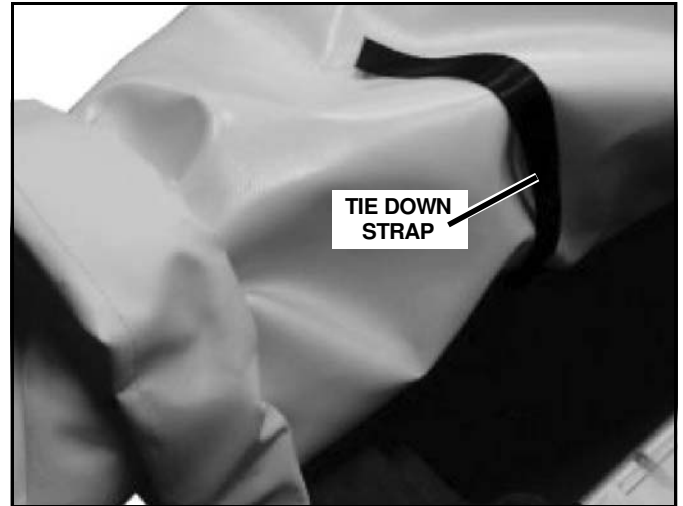
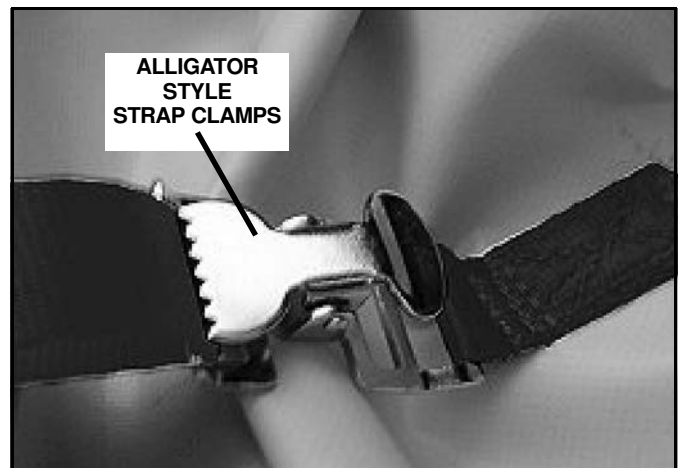

Figure 8
Figure 9
3. With the tarp completely rolled, secure by inserting the bottom tie down straps (See Figure 8) into the alligator style strap clamps. (See Figure 9).